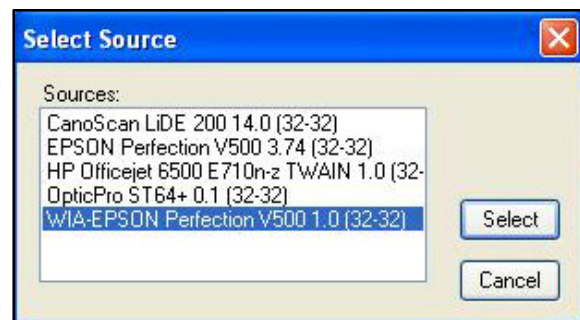

Figure 25. Selection of scanner model screen.
3. If the scanner is properly installed, it should be displayed in the *Select Source* screen. Click on the correct scanner and click SELECT (Fig. 25).